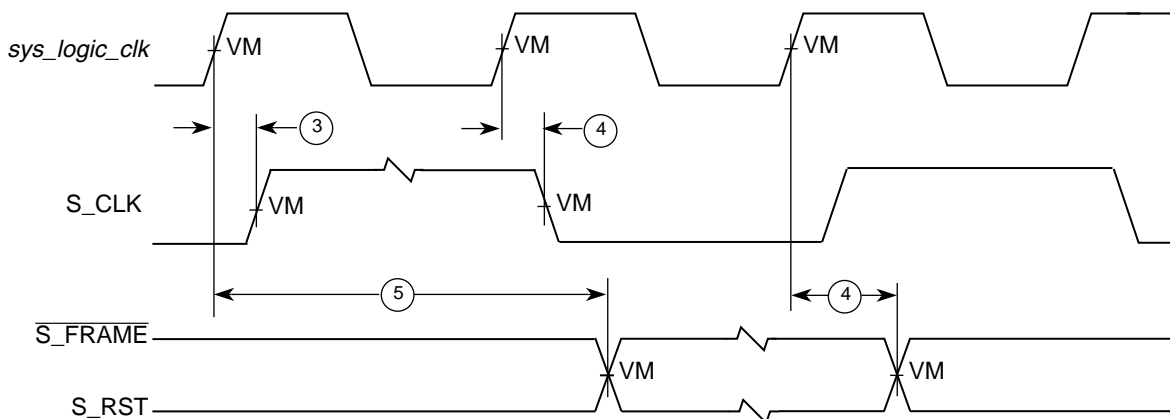
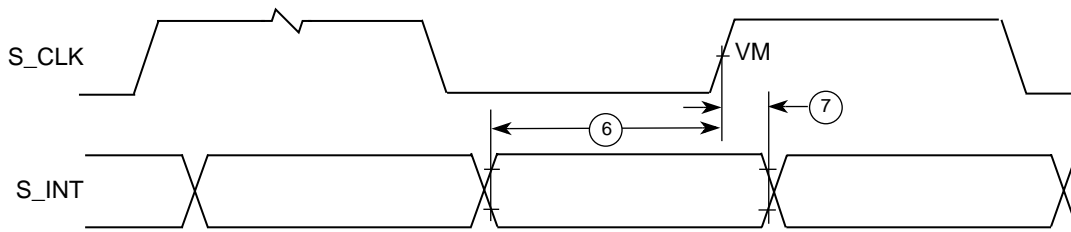

Figure 18. PIC Serial Interrupt Mode Output Timing Diagram
Figure 19. PIC Serial Interrupt Mode Input Timing Diagram
2. S_RST, $\overline{S_FRAME}$, and S_INT shown in Figure 18 and Figure 19, depict timing relationships to *sys_logic_clk* and S_CLK and do not describe functional relationships between S_RST, $\overline{S_FRAME}$, and S_INT. See the *MPC8245 Integrated Processor User's Manual* for a complete description of the functional relationships between these signals.